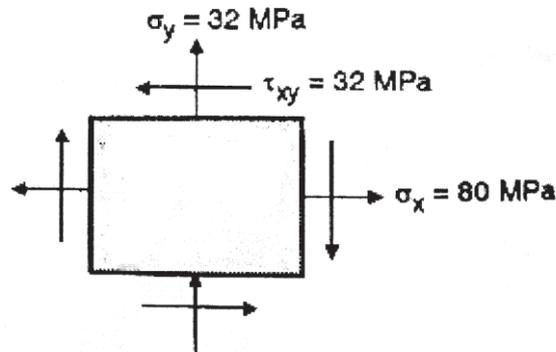

Fig.3
- Q5) a) At a point in a strained material, the values of normal stress across two right angles to each other are 80 MPa and 32 MPa, both tensile and there is a shear stress of 32 MPa as shown in fig.3 Determine i) Principal stress ii) Location of principal stress iii) Maximum shear stress iv) Location of plane of maximum shear plane. [9]